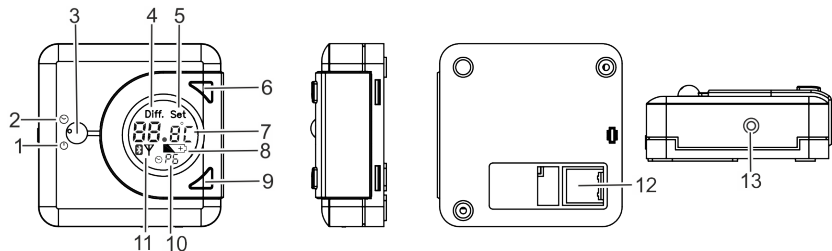

Fig. 1: Vue d'ensemble du thermio™ essential smart
1. To display the time, press the toggle key (Fig. 1/1) up.
1. To activate the key lock, press the toggle key (Fig. 1/3) down while simultaneously pressing the top button (Fig. 1/6).
1. Press the toggle key (Fig. 1/3) down to put the device in stand-by mode.